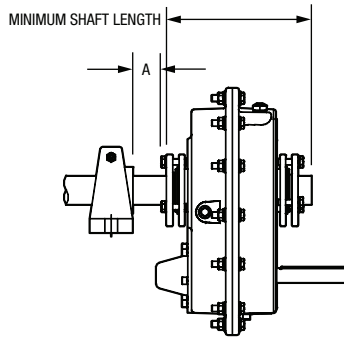

Figure 5 – Minimum Recommended Dimensions
1. One bushing assembly is required to mount the reducer on the driven shaft. An assembly consists of two tapered bushings, bushing screws and washers, two bushing backup plates and retaining rings, and necessary shaft key or keys. The driven shaft must extend through the full length of the reducer. If the driven shaft does not extend through the reducer do not use the standard tapered bushings; instead use the short shaft bushings as described in the Short Shaft Bushings section that follows. The minimum shaft length, as measured from the end of the shaft to the outer edge of the bushing flange (Figure 5), is given in Table 1.
1. One bushing assembly is required to mount the reducer on the driven shaft. An assembly consists of one long tapered bushing, one short tapered bushing, one tapered bushing wedge, bushing screws and washers, two bushing backup plates and retaining rings, and necessary shaft key or keys. The driven shaft does not need to extend through the reducer for the short shaft bushing to operate properly. The minimum shaft length, as measured from the end of the shaft to the outer edge of the bushing flange (Figure 5), is given in Table 1.